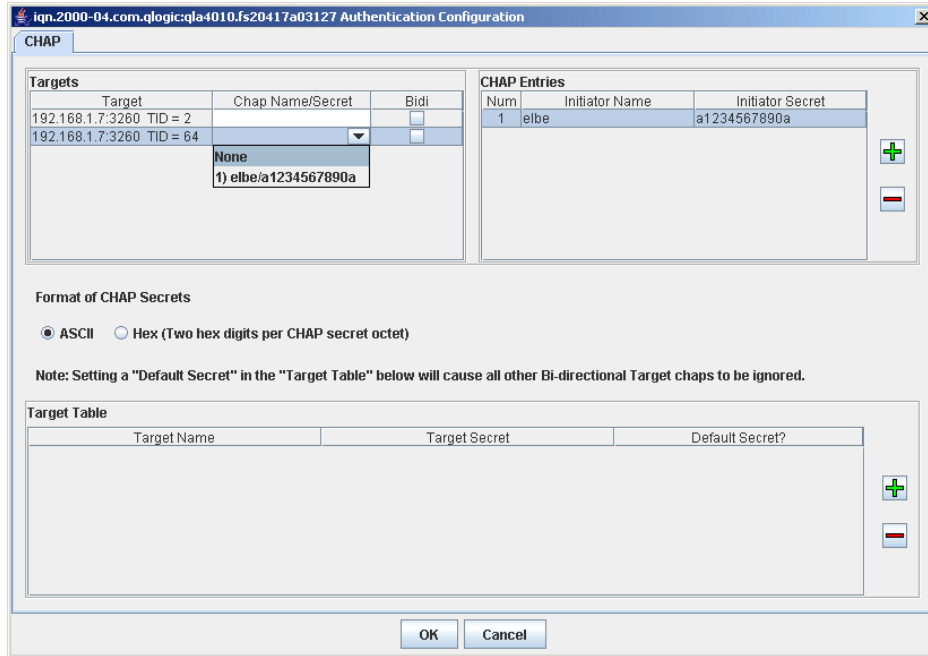

Figure 7-191 SANsurfer — Authentication configuration
30. Enter the username and password in the CHAP entries list in the new added line. The username can be any name or the iSCSI qualified name of an adapter. The password needs to be at least twelve characters long. Figure 7-191 on page 346 shows the username `e1be` and the password `a1234567890a` in the CHAP entries list.